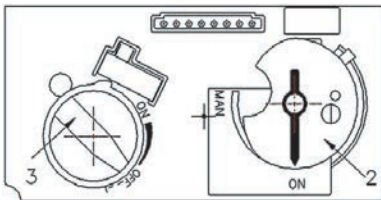
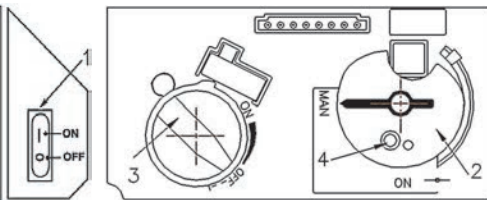
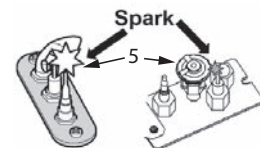

Fig 1
Fig 2
Fig 3
2. SET ON/OFF SWITCH (1) TO "OFF" POSITION.
- Wait five (5) minutes to clear out any gas, then smell for gas, including near the floor. If you smell gas, STOP! Follow "B" in the safety information above on this label. If you don't smell gas, go to the next step.
3. AUTOMATIC IGNITION (fig. 1): Locate the pilot (fig 3.) inside of firebox at Left Hand side.
- ON/OFF switch (1) in ON position, MAN-knob (2) in ON position; set Flame Adjustment knob (3) to lowest setting (⊖);
- When the pilot is lit, the Flame Adjustment knob (3) will automatically rotate to the highest setting.
4. MANUAL IGNITION (fig. 2): With the window off, locate the pilot (fig. 3) inside of firebox at Left Hand side;
- ON/OFF switch (1) in ON position, MAN-knob (2) in MAN position;
- Set Flame Adjustment knob (3) to the lowest setting (⊖);
- Push down the metallic core (4) with a pen or similar instrument; this will establish the pilot gas flow;
- Light gas at the pilot (5) with a match;
- Continue holding down metal core (4) for about 10 seconds; after release, pilot should remain lit;
- If the pilot will not stay lit after several tries, turn the gas control knob (3) to "OFF" (⊖) and call your local service technician or gas supplier.